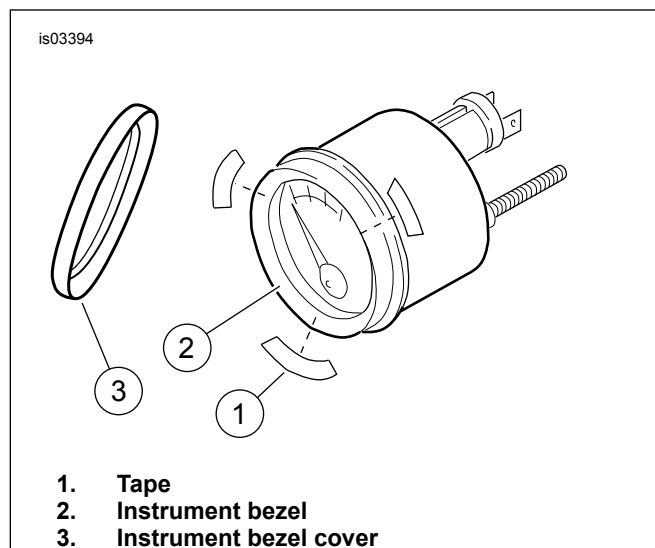

Figure 1. Chrome Instrument Bezel Installation
1. See Figure 1. Cut tape (1) into six equal pieces.